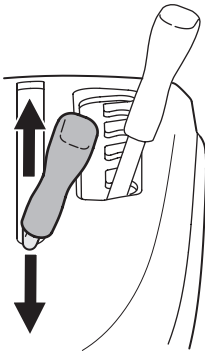

Figure 20
2. Push the PTO (Blade Engage) Lever forward into the engaged (ON) position. See Figure 20.